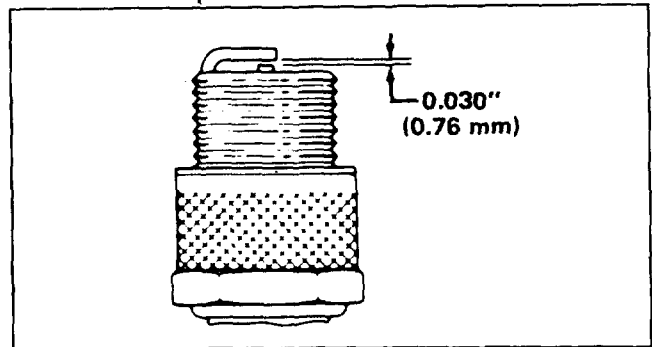

Figure 17
3. INSTALL SPARK PLUG — Set air gap (Fig. 17) between electrodes at .030" (.76 mm). Install plug and tighten to 15 ft-lb (20.4 N-m). If torque wrench is not used, tighten plug firmly with wrench by hand; **DO**